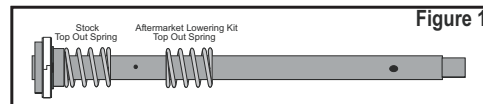

Figure 1
- If your bike is currently equipped with any type of fork lowering kit, you **MUST** remove that kit before installing this Drop-In Kit (see figures 1 & 2).